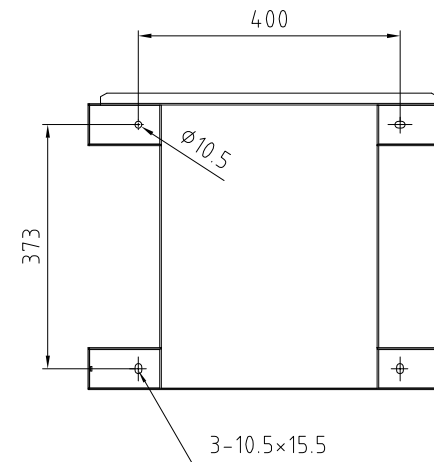

Figure 3.4 Mounting bracket and dimensions
The inverter can be mounted to a wall or metal array racking. The mounting holes should be consistent with the size of the bracket or the dimensions shown in Figure 3.4.
- 1). Referring to Figure 3.4, select the mounting height of the bracket. For brick walls, the position of the holes should be suitable for expansion bolts.